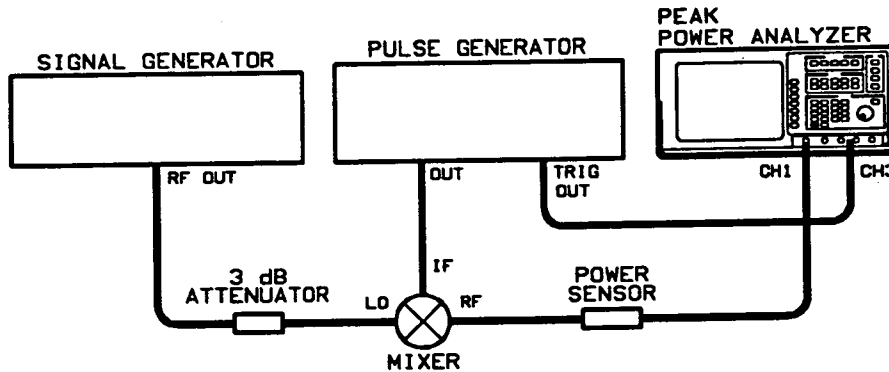

Figure 1-1. Checking Channel 1 and Channel 4 Risetime Equipment Setup
3. Connect the equipment as shown in Figure 1-1.